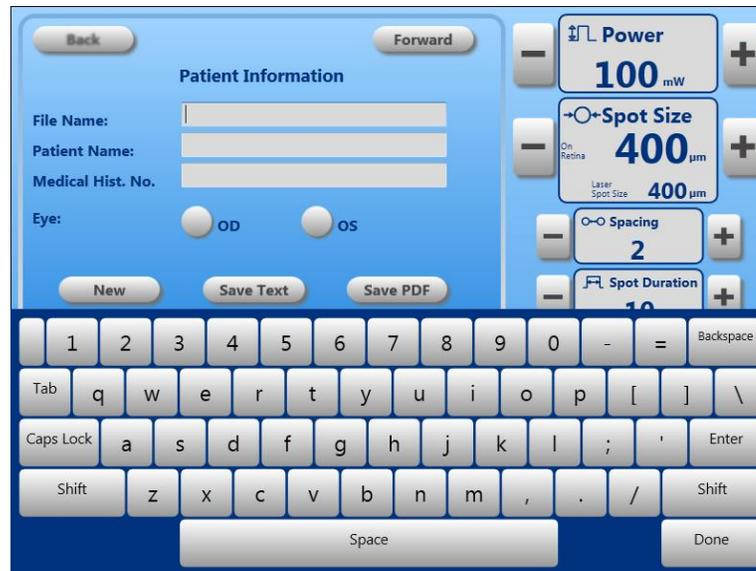

Fig. 37 Popup Keyboard
2. Touch the **File Name** field to enter a file name for the report. The name may only contain letters and numbers. Upon touching the **File Name** field, a keyboard will pop up at the bottom of the screen as seen in Fig. 37. Using the touchscreen keyboard, type in a file name for the report and press either the **Enter** key or the **Done** key when you are finished.